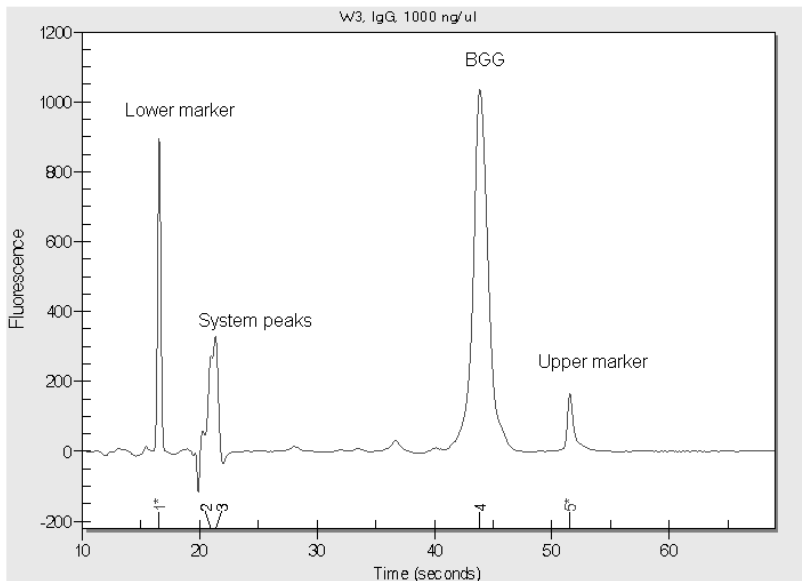
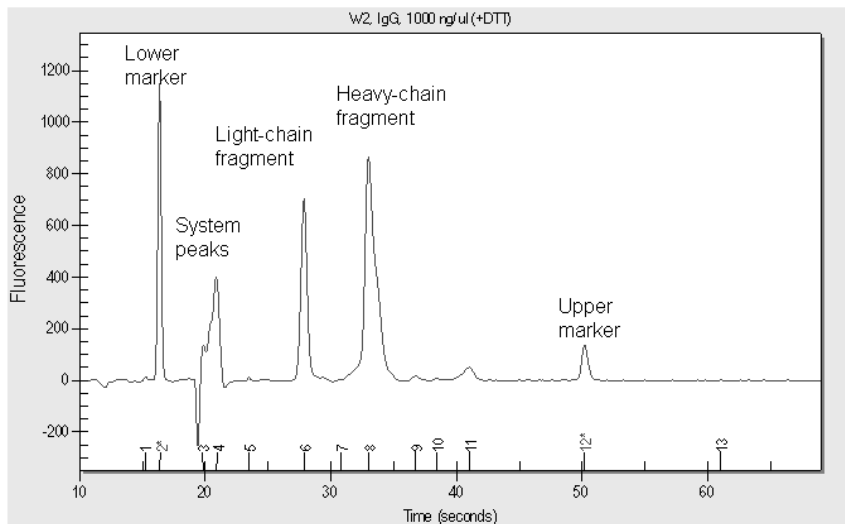

Fig. 1.9. Electropherogram showing the separation of the 1,000 ng/μl sample under nonreducing conditions.
Fig. 2.3. Separation of the 1,000 ng/μl sample under reducing conditions. Under reducing conditions, BGG separates into light- and heavy-chain fragments.
4. Examine the separation of the 1,000 ng/μl BGG sample (S1). Click on the sample name in the project tree or on lanes 3, 6, or 9 in the virtual gel. The electropherogram appears and should have the following features (Figure 1.9):
- To evaluate sizing, examine the values provided in the **Mol. Wt. (kD)** column for each sample. BGG is peak 4 in the electropherogram in Figure 1.9 (well 3), and the peak size is ~158.26 kD.
3. Examine the separation of 1,000 ng/μl BGG sample (S1). Click on the sample name in the project tree or on the lane in the virtual gel. The electropherogram appears and should appear as shown in Figure 2.3. Under reducing conditions, BGG separates into light- and heavy-chain fragments; therefore, the electropherogram in Figure 2.3 has more peaks than does the electropherogram in Figure 1.9 (non-reducing conditions).
- Evaluate the percentage determination by Experion software (% Total calculation). Click on the **Results** tab, click on lane 2 in the virtual gel, and evaluate the values provided in the % **Total** column for each peak. For the sample shown in Figures 2.3 and 2.4, the light- and heavy-chain peaks correspond to peaks 6 and 8 and represent 34% and 62% of the total protein concentration, respectively.
Fig. 2.4. Results table from Test 2 showing % Total (percentage determination) calculations. Results are shown for each of the peaks in the electropherogram shown in Figure 2.3.